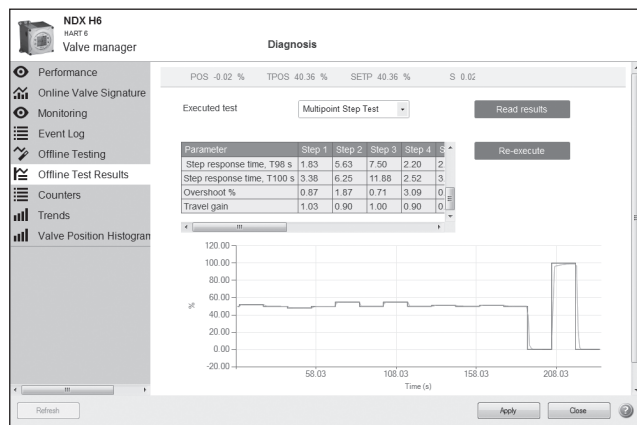

Fig. 74.
- under prestage cover with prestage symbol (Fig. 74)